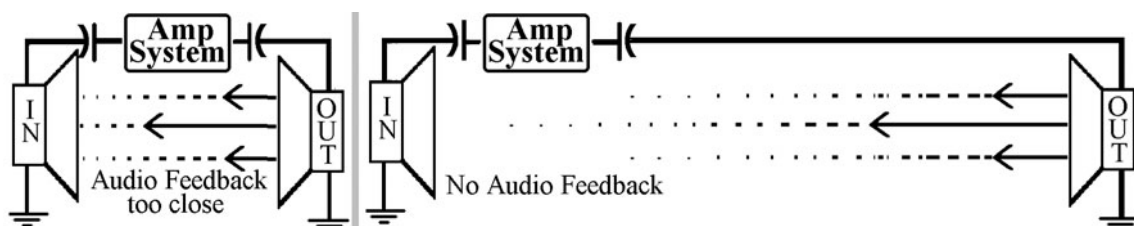

Figure L59-4
- As you increase the volume, the circuit might start screeching at you. Notch the gain backward until the screeching stops. The screeching is caused by feedback demonstrated in Figure L59-4. Sound